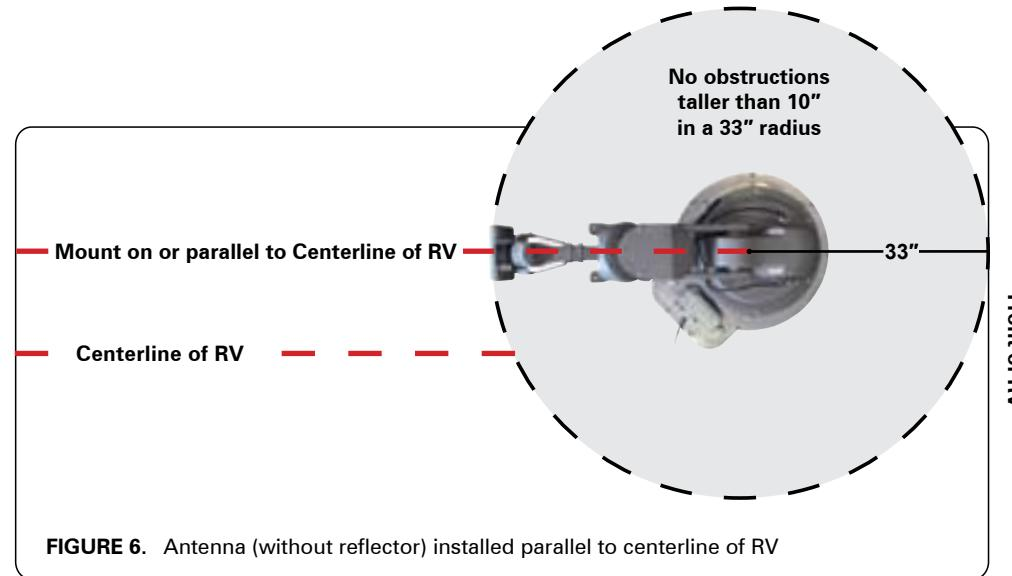

FIGURE 6. Antenna (without reflector) installed parallel to centerline of RV
- Place the TRAV'LER antenna on the roof where you plan to install it. On the mount base, the transition plate is marked "FRONT" and "BACK." Rotate the TRAV'LER antenna until the front of the mount base faces the front of the RV. **The TRAV'LER antenna must be installed on or parallel to the centerline of the coach.** See figure 6.